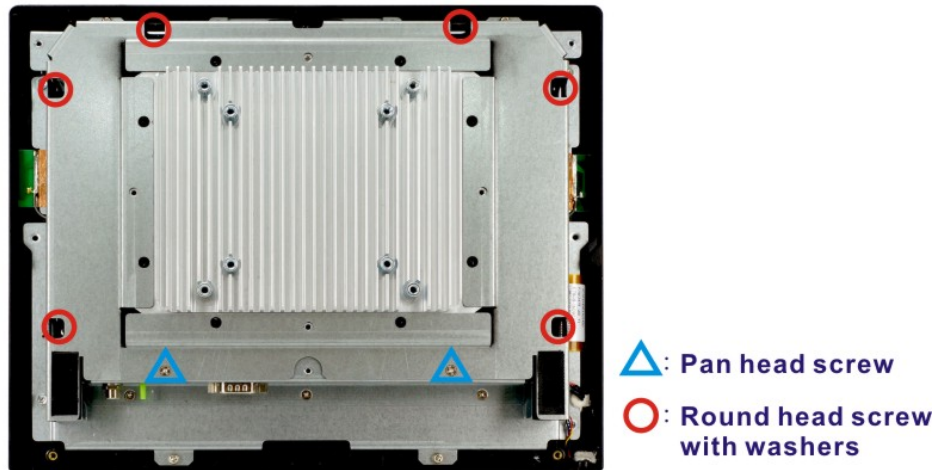

Figure 3-2: Aluminum Cover Retention Screws
Step 3: Remove the eight retention screws from the internal aluminum cover. Two types of screw are used for securing the aluminum cover. Be aware of this for reinstalling the aluminum cover. See **Figure 3-2** for detail.